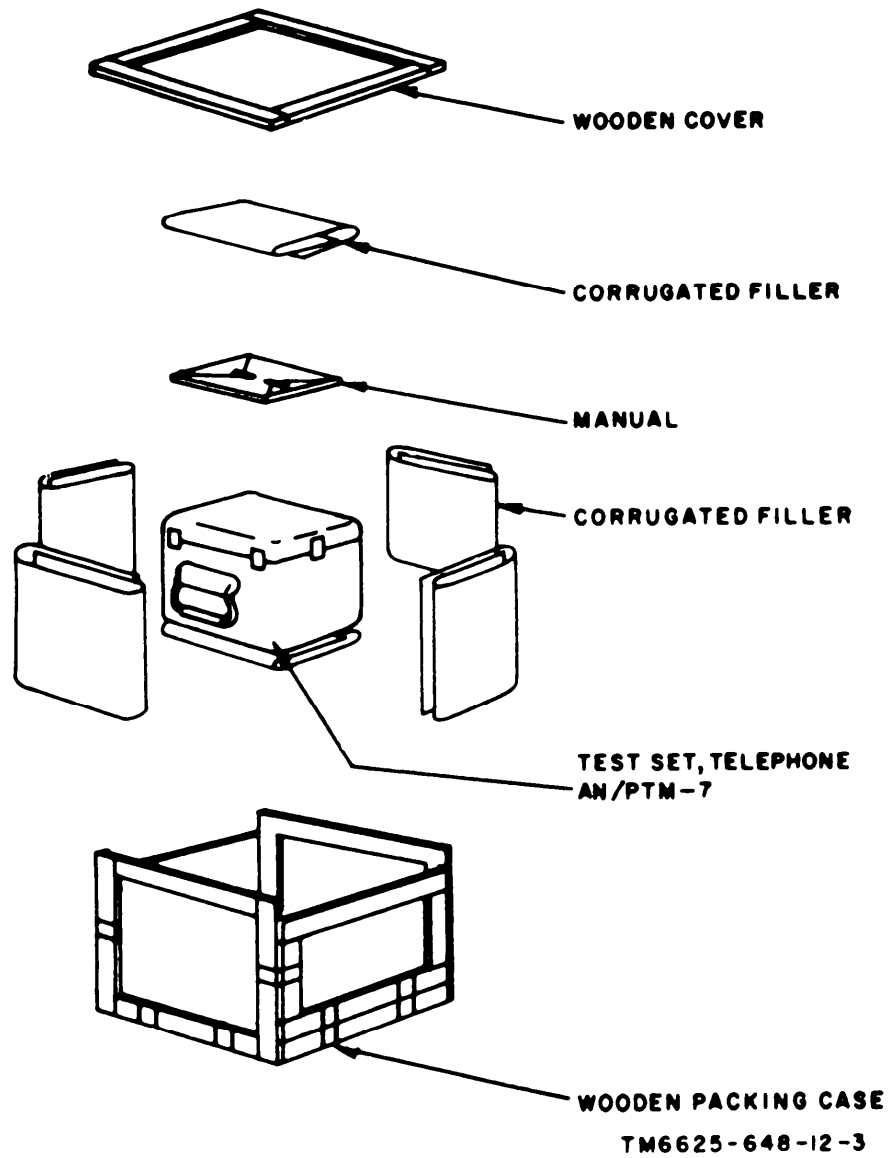

Figure 2-1. Packaging of Test Set, Telephone AN/PTM-7.
a. *Packaging Data.* When packed for shipment, the AN/PTM-7 is placed in a wooden packing case padded with corrugated filler. The wooden packing case and its contents are shown in figure 2-1. The dimensions of the packing case are 12 inches high, 15 inches deep, and 17 inches wide; the volume is .75 cubic feet, and the weight is 30.7 pounds.